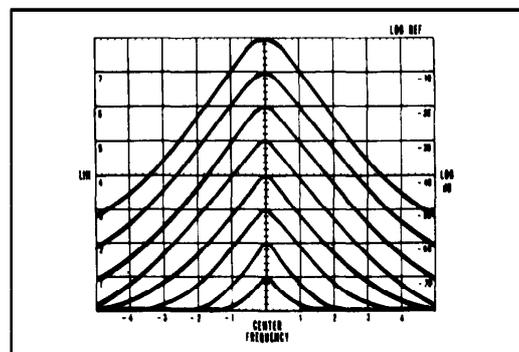

Figure 4-2. Vertical Gain Adjustment
- g. Adjust the LOG REF LEVEL controls so the maximum signal amplitude is exactly on the -70 dB, graticule line. Rotate LOG REF LEVEL control seven steps in the clockwise direction. The amplitude of the signal should increase in increments of one division per 10-dB step (see Figure 4-2),
- h. Adjust VERTICAL GAIN to place maximum signal amplitude exactly on LOG REF (top) graticule line (Figure 4-2). Repeat steps g and h to obtain optimum adjustment of VERTICAL GAIN (increments as close to one division per 10 dB step as possible),